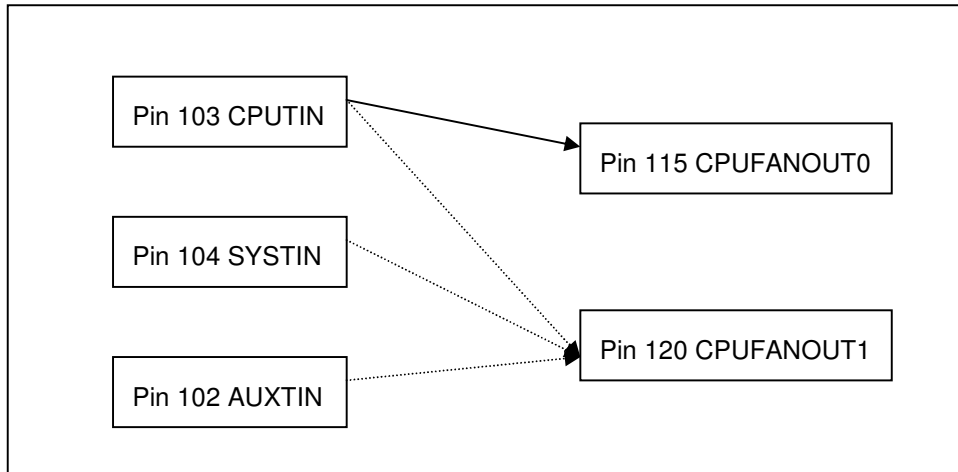

Figure 7.9, 7.10, and 7.11 illustrate SMART FAN™ III mode, and the algorithm of fan speed control is described as follows:
- (1) Figure 7.9 shows the initial condition of SMART FAN™ III. Target Temperature, Temperature Tolerance, Maximum Fan Output and Minimum Fan Output must be set first. If the currently measured temperature is within the (Target Temperature \pm Temperature Tolerance), the fan speed remains constant.